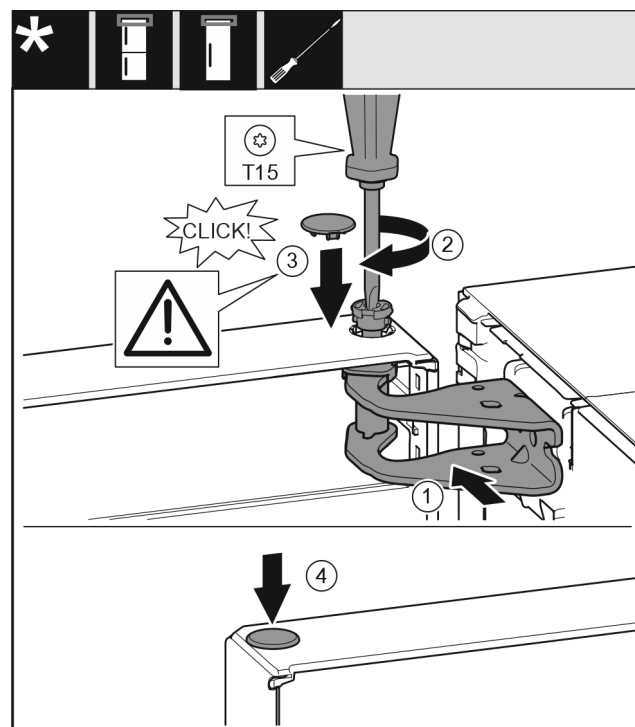

Fig. 21
- ▶ Align the top door with the opening in the swap bearing block Fig. 21 (1).
- ▶ Insert the bolt Fig. 21 (2) and use screwdriver to tighten it.
- ▶ Insert the cover Fig. 21 (3).
- ▶ Check that the cover Fig. 21 (3) is resting on the door.
- ▶ Insert the cover Fig. 21 (4).